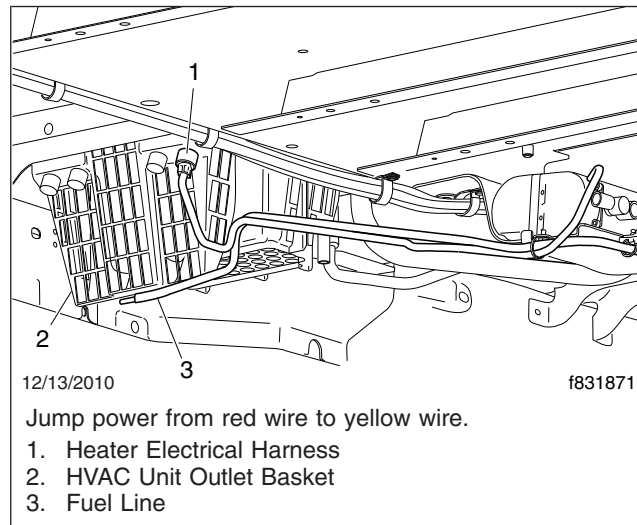

Fig. 7, Testing the Heater Function
2. Jump the power from the red wire to the yellow wire (so that both supply 12V to the heater). See Fig. 7.